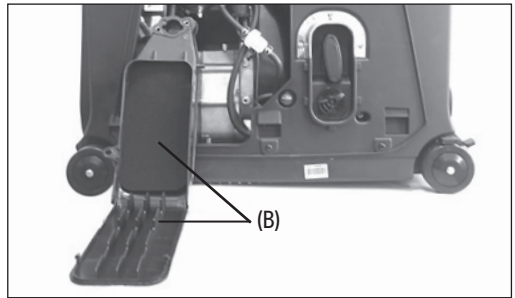

Fig. 17
4. Extract the foam filter (B) and inspect it for holes, tears and obstructions. (Fig. 17).